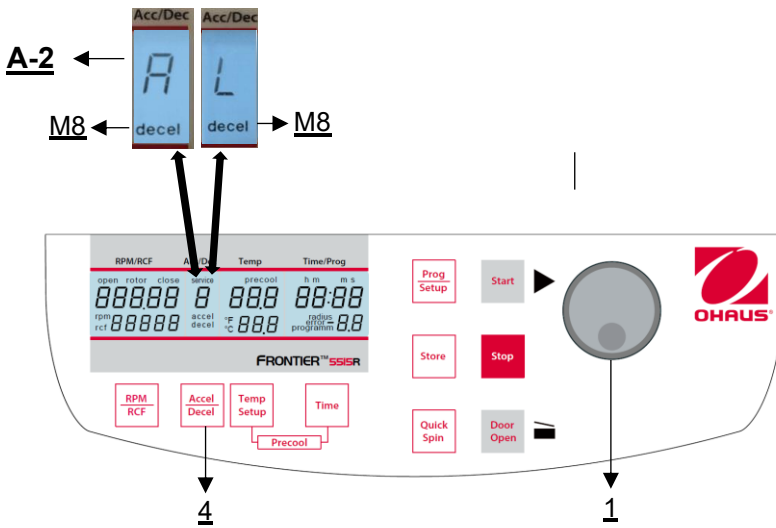

Figure 18
If the **"Accel/Decel"** (4) key is pressed three times, the word **"decel"** (M8) flashes in the **"Acc/Dec"** (A-2) display field. Now the desired braking curve can be preselected with the adjusting knob (1) (see **Figure 18**). The code letter "L" stands for a linear braking curve. This means that the rotor is braked evenly during the entire braking phase. The braking curve with the code letter "A" allows a smooth braking. Its braking rate (rpm/s) is dynamically adjusted, which means that sensitive samples are only slightly swirled during the braking phase. This leads to a better separation result.